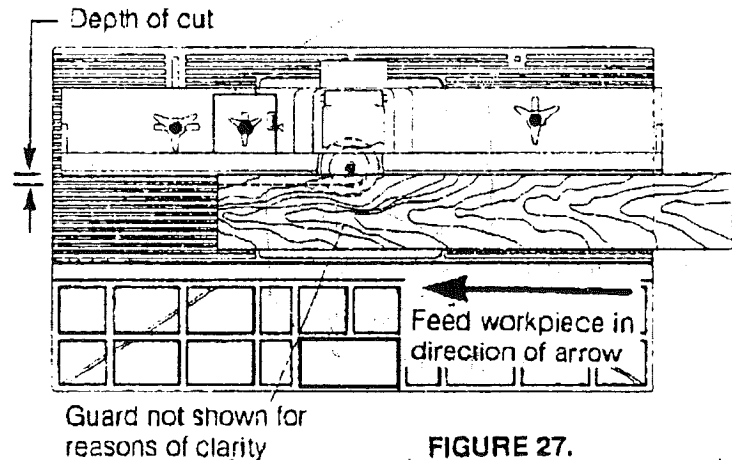

FIGURE 27.
1. Position the jointing fence such that its face is flush with the face of unitized fence. Tighten small knob on jointing fence. See Figure 27.
NOTE: Feed work against the rotation of the cutter (in the direction shown by the arrow in Figure 27).